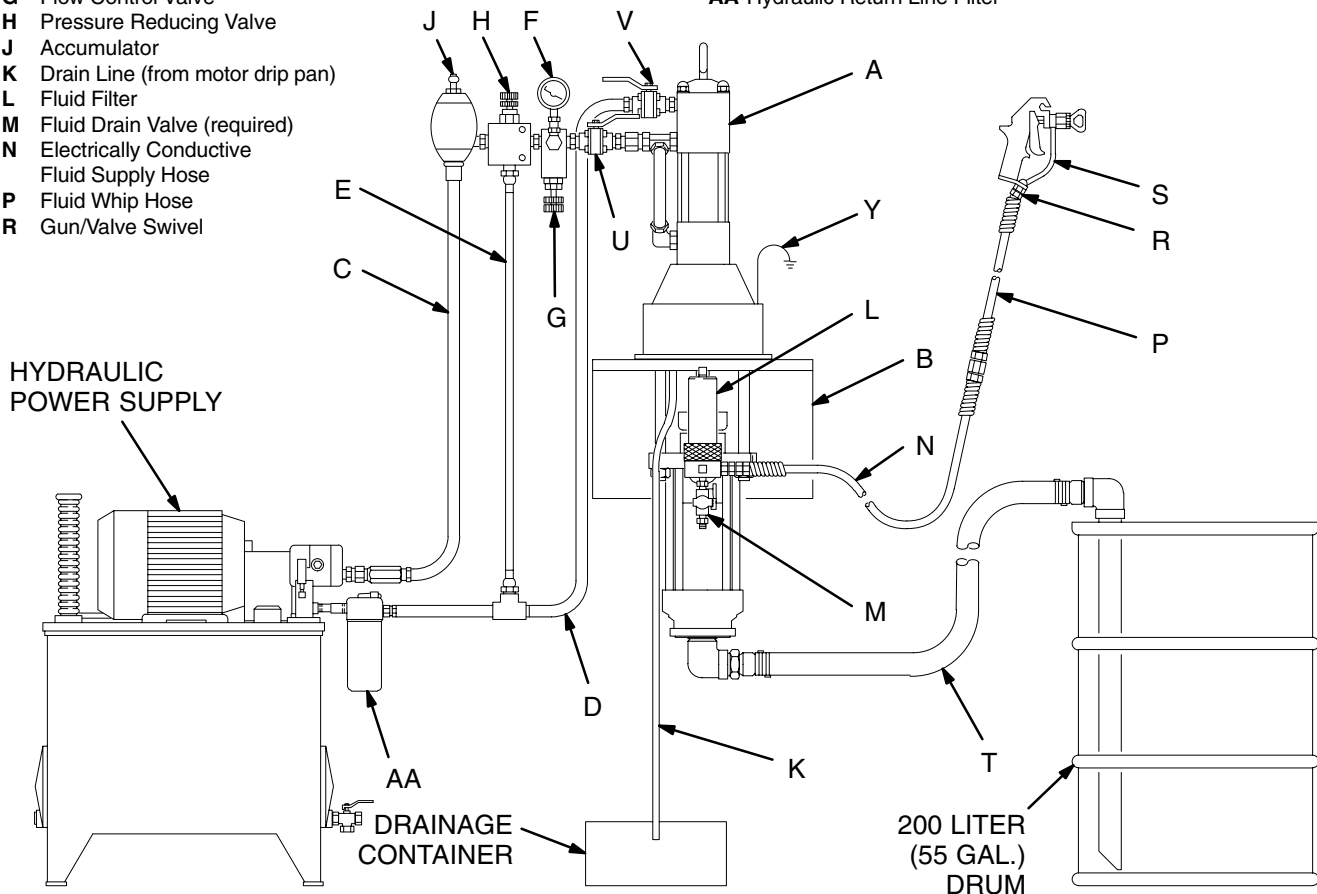

Fig. 4
Fig. 4 is only a guide for selecting and installing system components and accessories. Contact your Graco distributor for assistance in designing a system to suit your particular needs.
Mount the pump (A) to suit the type of installation planned. Fig. 4 illustrates a wall-mounted system. Pump dimensions and the mounting hole layout are shown on pages 40 and 41.
**On the hydraulic supply line (C)**, install the following accessories in the order shown in Fig. 4, using adapters as necessary:
- **A shutoff valve (U)** isolates the pump for service.
- **A fluid pressure gauge (F)** to monitor hydraulic oil pressure to the motor and to avoid overpressurizing the motor or displacement pump, and **a pressure- and temperature-compensated flow control valve (G)** to prevent the motor from running too fast and possibly damaging itself.
- **A pressure reducing valve (H), with a drain line (E)** run directly to the hydraulic return line (D).
- **An accumulator (J)** to reduce the hammering effect caused by the motor reversing direction.
**On the hydraulic return line (D)**, install the following accessories in the order shown in Fig. 4, using adapters as necessary:
- **A shutoff valve (V)** isolates the pump for service.
- **A filter (AA)** of 10 micron size.
Install the following accessories in the positions shown in Fig. 4, using adapters as necessary:
1. Refer to Fig. 4 on page 10. Connect the suction kit (T) to the pump's fluid inlet, and place the tube into the fluid supply.
3. Make certain that the supply line shutoff valve (U) and the return line shutoff valve (V) are closed.
5. Hold a metal part of the gun/valve (S) firmly to the side of a grounded metal pail and hold the trigger open.
6. Open the return line shutoff valve (V) *first*, then slowly open the supply line shutoff valve (U).